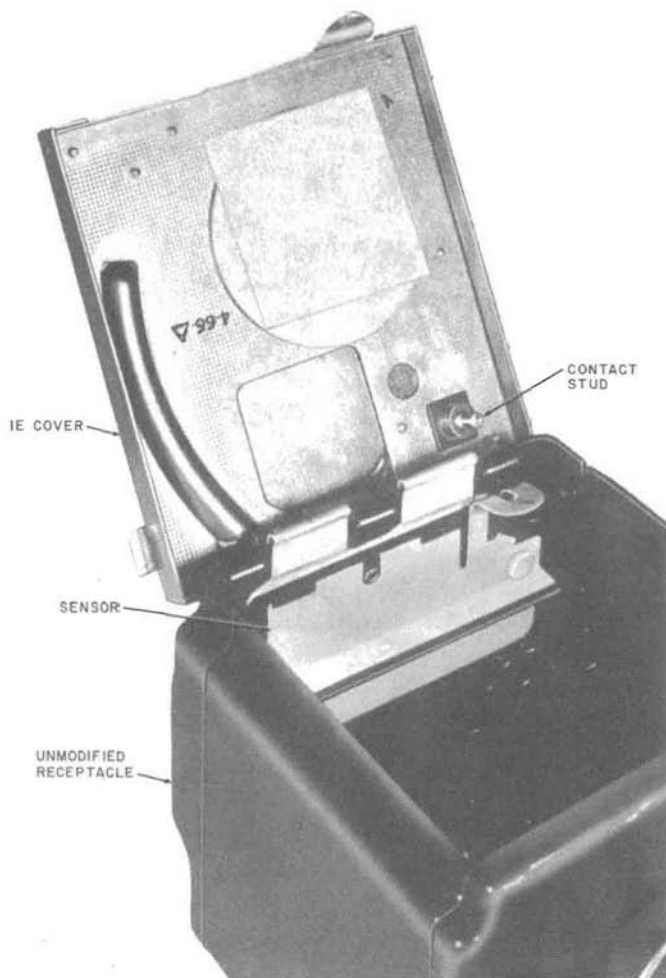

Fig. 5—Modified Coin Box
- 3.06** Replace existing coin box with a modified coin box (Fig. 5).